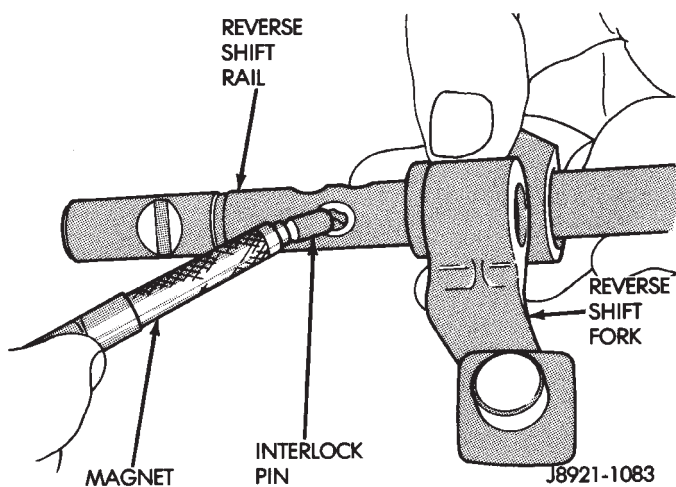

Fig. 86 Installing Reverse Shift Rail Interlock Pin
- (1) Coat reverse rail interlock pin with petroleum jelly and install pin in rail (Fig. 86).